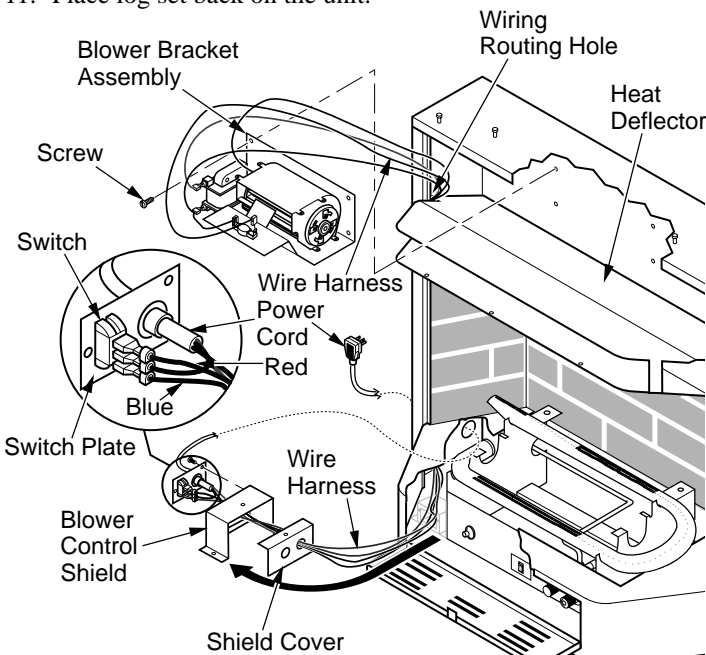
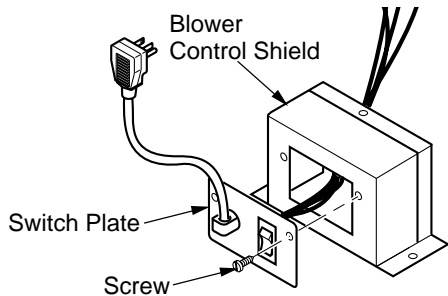

Figure 15 - Installing Blower Bracket Assembly
Figure 16 - Installing Switch Plate to Blower Control Shield
- Note the wire locations on back of AUTO/OFF/ON switch. Carefully remove red wire from the AUTO terminal and blue wire from the ON terminal. Black wire can remain on the middle or OFF terminal (see Figure 15, page 11).
- In top of the heater cabinet, locate the four mounting holes on the outer casing. Align these four holes with those on the blower bracket assembly. Attach blower bracket assembly to the outer casing with 4 - #10 screws provided (see Figure 15, page 11).
- Route the wire harness through the hole to the left side of heat deflector. Pull wire harness through lower opening to the left of the blower control shield. (see Figure 15, page 11).
- Insert the 4 wire harness into one of the round holes in the rear of the blower control shield and through the rectangular hole in the front of shield (see Figure 15, page 11).
- Install the switch plate on the blower control shield with 2 - #10 screws provided (see Figure 16). Route power cord out of the cabinet by inserting it through the bushing on the outer casing (see Figure 15). Plug fan kit into 120-Volt grounded power supply and test operation. **Note:** When switch is in the AUTO position, the fan will start after the heater has run for a few moments. The fan will continue to run for several moments after the heater has been turned off. When switch is in the ON position, the fan will run until turned to OFF. Reinstall hood assembly and close lower louver door.